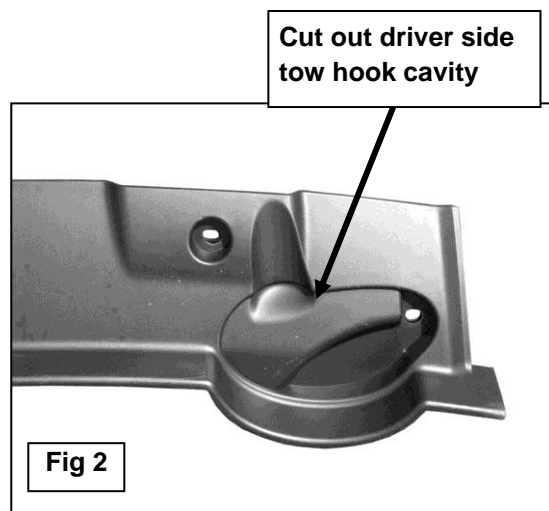
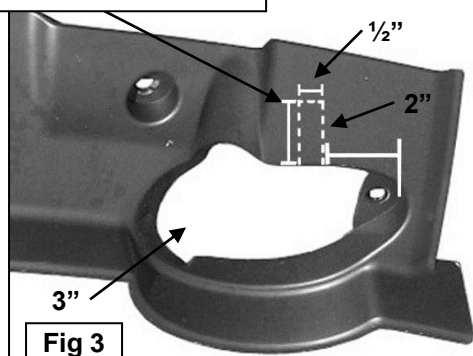

Fig 2
Fig 3
3. Use a hack saw to cut out the driver side tow hook cavity on the splash guard, **(Figure 2)**. Once you have cut out the tow hook cavity, place the splash guard up to the vehicle to check for clearance around the Mounting Brackets. If necessary, cut an additional $\frac{1}{2}$ " x 2" slot in the front side of each tow hook cavity to clear the Mounting Bracket, **(Figure 3)**. Once you have cut out the plastic splash guard, reinstall it using the factory hardware.